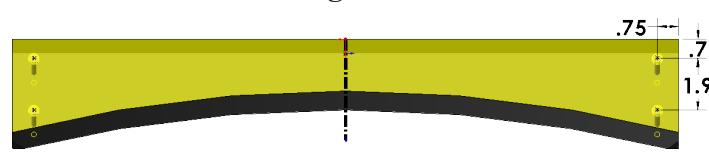

Fig. 32
**Mirror Entities** on the Sketch toolbar, Fig. 32.